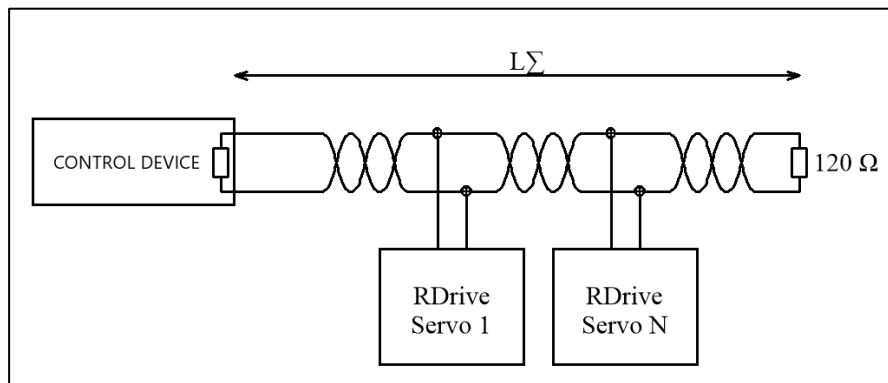

Figure 4-1: CAN connection to control servos based on CANOpen
- In case servo control is based on the CANOpen protocol stack, provide a CAN bus connection of the configuration as shown in **Figure 4-1**.
The connection is in accordance with the diagram as shown in **Figure 4-1**. Connect the CAN cables on the RDrive input flange to the corresponding twisted pair wires: the brown one to CAN_{HIGH}, and the blue one — to CAN_{LOW}.
To enable control based on CANOpen, connect RDrive servomotors in accordance with **Figure 4-1**. For a detailed description of the CANOpen communication interface implemented for RDrive servos and related application cases (including servo initialization), refer to “CANOpen Communication Guide.”